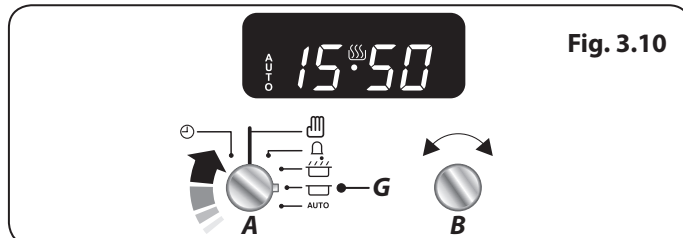

Fig. 3.10
2. Turn the **Timer (A)** knob to the **Stop Time (G)** setting (**Fig. 3.10**). The display will show the current time of day plus the 'cook time' you just set.